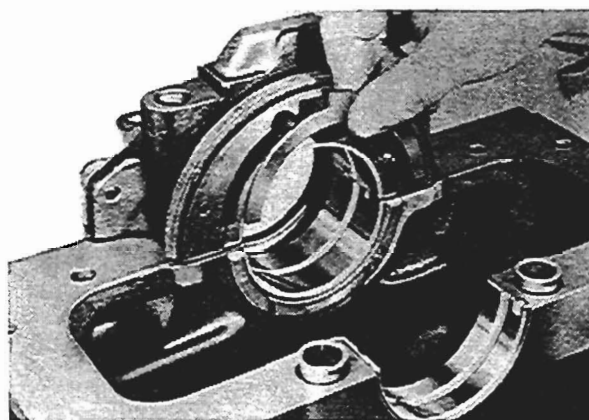
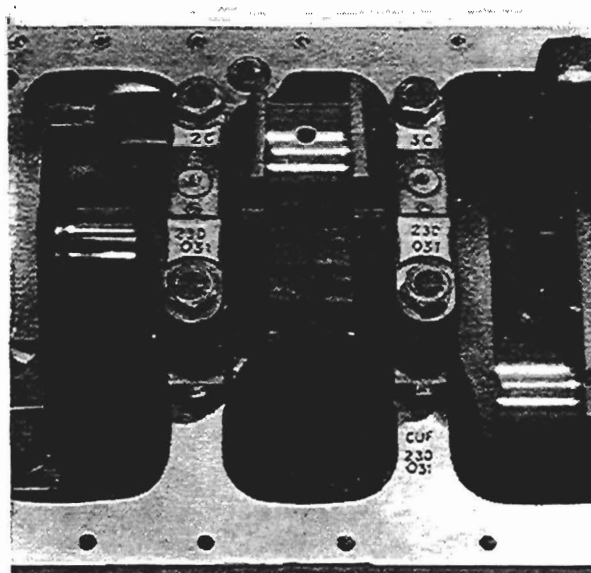

Fig. J7A
Fig. J8
8. Fit the bottom half bearings to the main bearing caps with the location tags in their slots and lubricate the bearing surfaces. Put the main bearing caps in their correct positions and ensure that the bottom half thrust washers are correctly fitted to No. 4 cap (see fig. J7A). The inner caps are stamped 2 and 3 from the front of the engine. Each cap is stamped with a serial number and when fitted, this serial number must read in line with the serial number stamped on the cylinder block bottom face (see fig. J8).